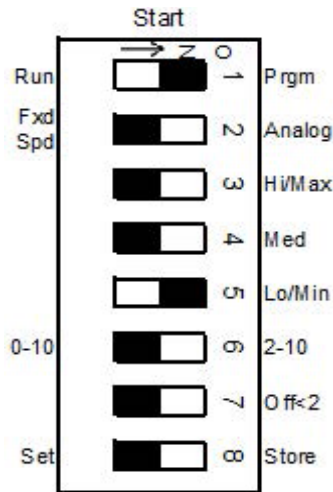

FIGURE 18 - LOW SPEED ADJUST
3. **Low Speed Adjust:** Set Configuration Switch to LOW SPEED adjust (see *Figure 18 on page 29*). Switches to ON-OFF-OFF-OFF-ON-OFF-OFF-OFF
- **STORE:** Set switch 8 to Store (ON), wait one second, then to Set (OFF), to save the value.